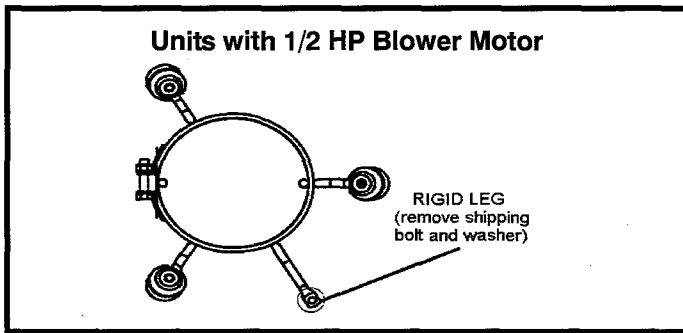

Figure 4
**NOTE:** Units with a 1/2 hp blower motors are equipped with three flexible legs and one rigid leg. The rigid leg is equipped with a shipping bolt and a flat white plastic washer (rather than the rubber mounting grommet used with a flexible mounting leg). See Figure 4. **The bolt and washer must be removed before the furnace is placed into operation.** After the bolt and washer have been removed, the rigid leg will not touch the blower housing.